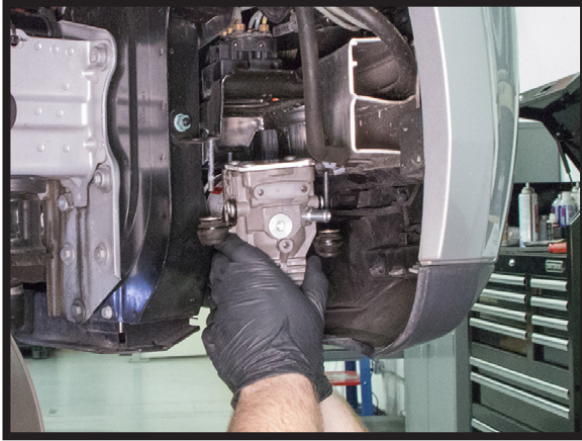

FIGURE 13
2. INSTALL THE COMPRESSOR INTO VEHICLE. REINSTALL THE THREE MOUNTING NUTS AND TIGHTEN TO MANUFACTURER'S SPECIFICATIONS. (FIGURES 13, 14)